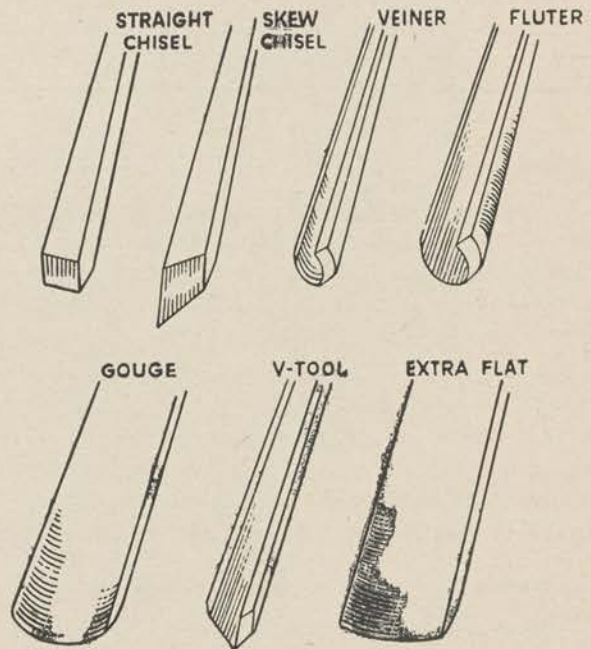

Figure 53.
c. While quite complicated carving can be done with the knife alone, you will find that by using a chisel and one or more of the wood carving tools illustrated your work will be easier and faster (fig. 53). The shape of the blade suggests the spe-